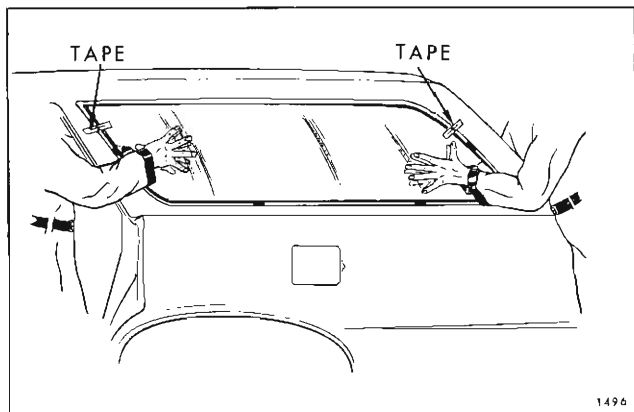

Fig. 2E40—Rear Quarter Window Installation
2. On all but "15" styles, cement eight (8) flat spacers (.20 x .63 x 1.0 - Part No. 4459429 or equivalent) to window opening pinchweld flange with black weatherstrip adhesive as shown in Figure 2E38. On "15" styles omit bottom center spacer.
3. With black weatherstrip adhesive, cement four (4) rectangular spacers (.30 x .44 x 1.0 - Part No. 4404196 or equivalent) to quarter window lower and side opening rabbets in the depressions provided, two (2) across lower rabbet and one (1) on each side rabbet (Fig. 2E38).
4. With aid of a helper, carry glass to body as shown in Figure 2E39. Then, with helper supporting glass with both hands, reach one hand around body pillar and support glass while helper also reaches around pillar to assume position shown in Figure 2E40. Position glass in opening by making contact along upper edge first, then swing in lower edge.
5. Check relationship of glass to pinchweld flange around entire perimeter. Overlap of pinchweld flange by glass should be equal with a minimum overlap of 3/16". Inadequate overlap across top may be corrected by replacing two (2) rectangular glass support spacers across bottom with thicker spacers. Standard spacers are .30" thick, but .34" thick spacers are available as a service part (See beginning of procedure).